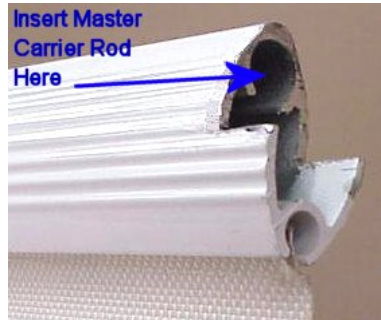
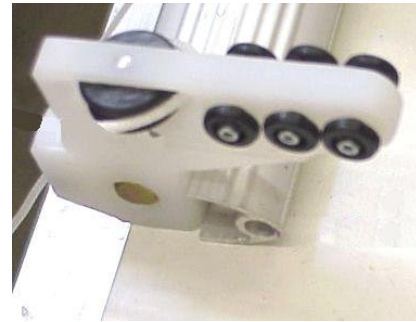

Figure 7 Bottom Rail End
Figure 8 Master Carrier in Bottom Rail
- Unwrap the return cords from the cardboards and remove the tape holding them to the motor tube. Insert the master carriers into the bottom rail as shown in Figure 7 and Figure 8.